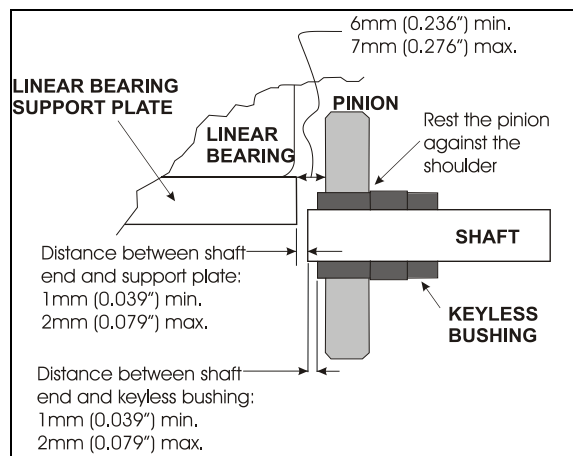

FIGURE 13: PINION AND KEYLESS BUSHING POSITIONING
- Properly position the shaft end in relation to the linear bearing support plate (See Figure 13) and then tighten the locking collars to maintain the shaft in that position.
- Position pinion and keyless bushing as shown on Figure 13 and tighten the keyless bushing as described in paragraph 6.4.